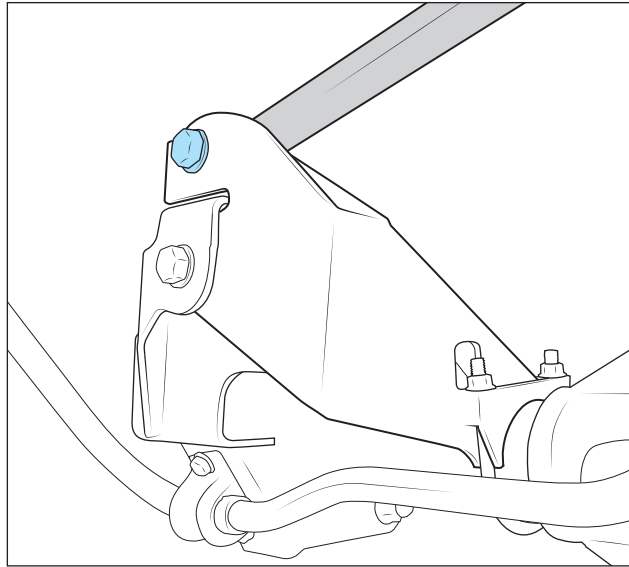

Figure 12
16. Reinstall the track bar at the upper hole in the AEV bracket using the factory bolt and washer with supplied M14 nut. LEAVE LOOSE until vehicle is sitting at ride height (fig. 12.)